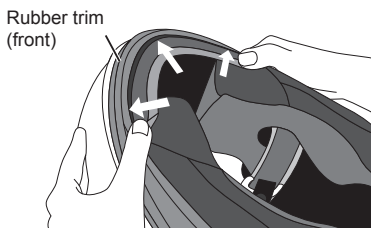

Fig.3
- ③ As shown in Fig. 3, insert the interlining of the Wind Shutter-2 uniformly into the inside of the rubber trim from both sides towards the center.